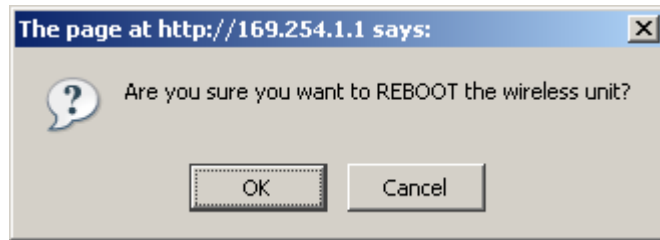

Figure 136 - Configuration Reboot Screen
6. Reboot both ends of the link Figure 136. The software is designed to allow five seconds so that a user can command both ends of the link to reboot before the wireless link drops.